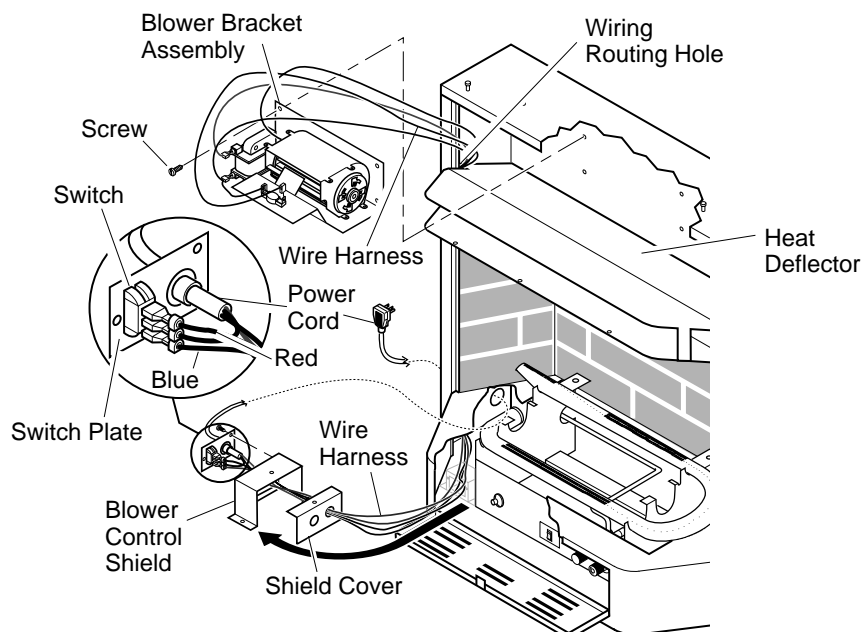
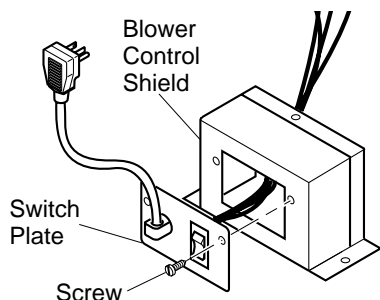

Figure 15 - Installing Blower Bracket Assembly
Figure 16 - Installing Switch Plate to Blower Control Shield
- Note the wire locations on back of AUTO/OFF/ON switch. Carefully remove red wire from the AUTO terminal and blue wire from the ON terminal. Black wire can remain on the middle or OFF terminal (see Figure 15).
- In top of the heater cabinet, locate the four mounting holes on the outer casing. Align these four holes with those on the blower bracket assembly. Attach blower bracket assembly to the outer casing with 4 - #10 screws provided (see Figure 15).
- Route the wire harness through the hole to the left side of heat deflector. Pull wire harness through lower opening to the left of the blower control shield. (see Figure 15).
- Insert the 4 wire harness into one of the round holes in the rear of the blower control shield and through the rectangular hole in the front of shield (see Figure 15).
10. Install the switch plate on the blower control shield with 2 - #10 screws provided (see Figure 16). Route power cord out of the cabinet by inserting it through the bushing on the outer casing (see Figure 15). Plug fan kit into 120-Volt grounded power supply and test operation. *Note:* When switch is in the AUTO position, the fan will start after the heater has run for a few moments. The fan will continue to run for several moments after the heater has been turned off. When switch is in the ON position, the fan will run until turned to OFF. Reinstall hood assembly and close lower louver door.